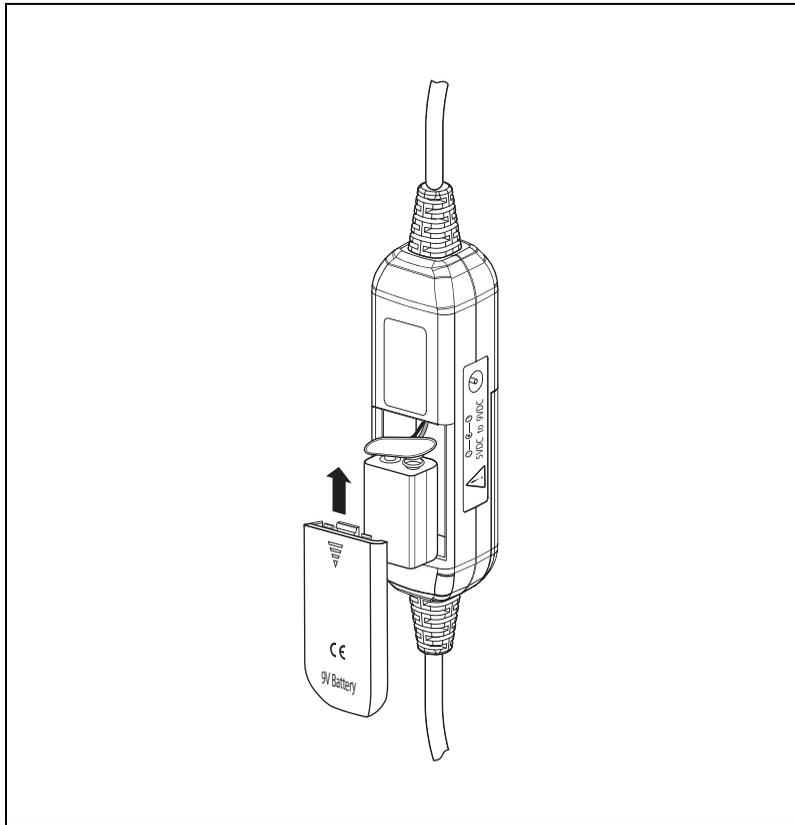

Figure 1. Installing the 9 V Battery in the NI 5191
- b. Insert the battery into the compartment, connecting the + and – leads to the snap connector inside the probe body, as shown in Figure 1.